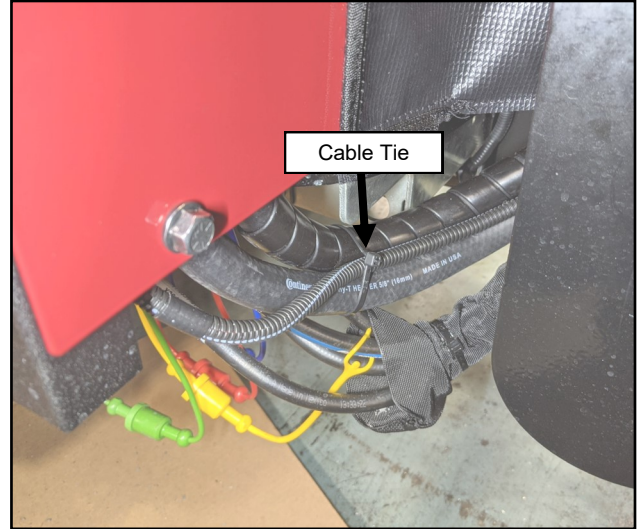

Fig. 19.1 (Secure Wiring Harness to Heater Hoses)
- 19.1** Use a supplied cable tie to secure the wiring harness to the heater hoses. See Figure 19.1.